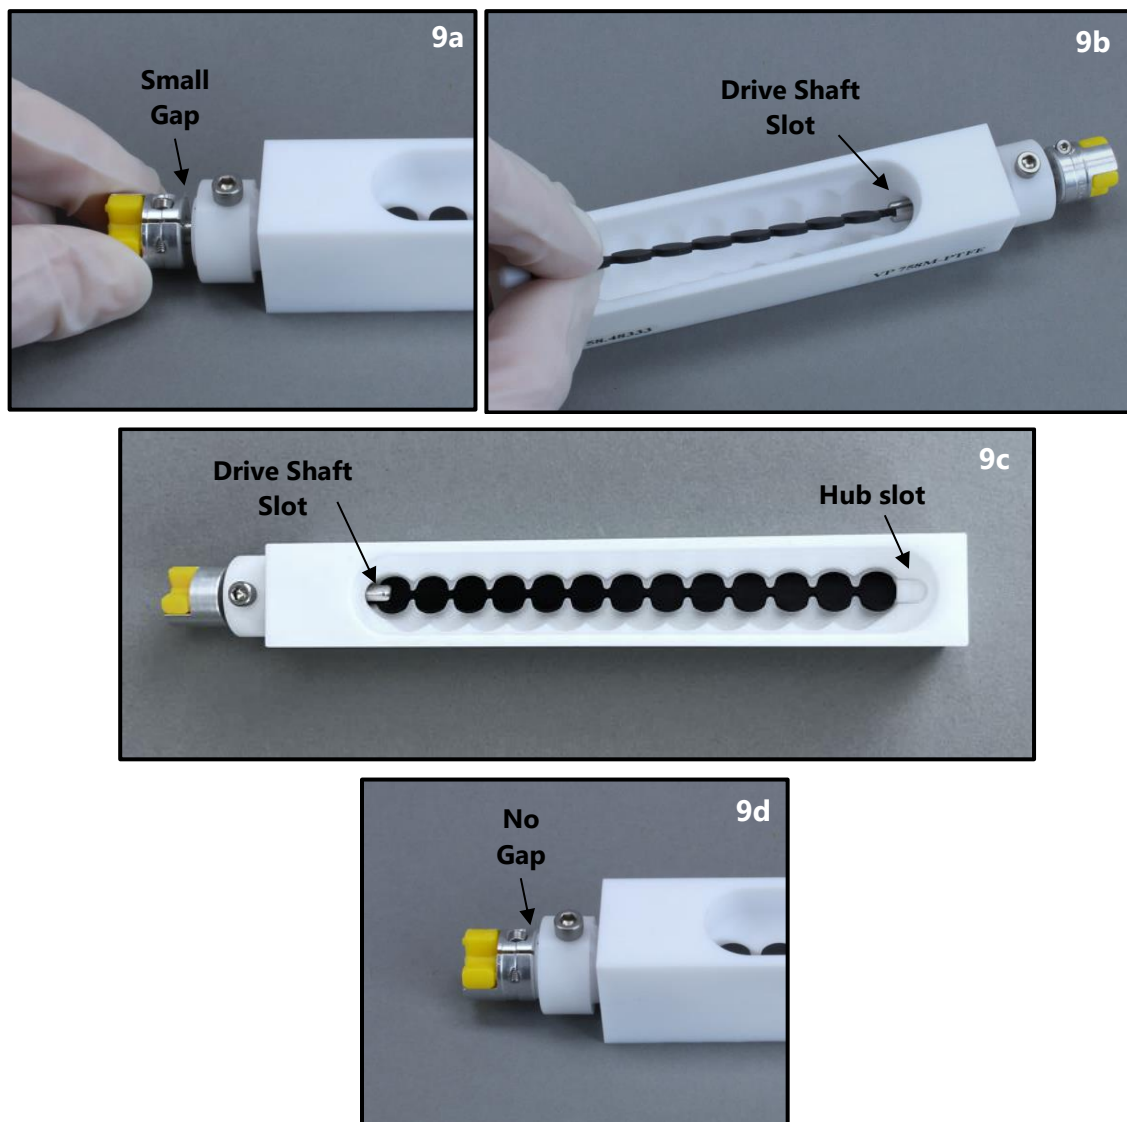

Figure 9a-d. Replacement of Bubble Paddle VP 759AL-R
- b) Turn the bubble paddle so that it is in a vertical position. Gently pull the coupler portion of the sealed bearing unit so that the drive shaft is partially out of the sealed bearing and the bubble paddle is released (see Figure 9a).